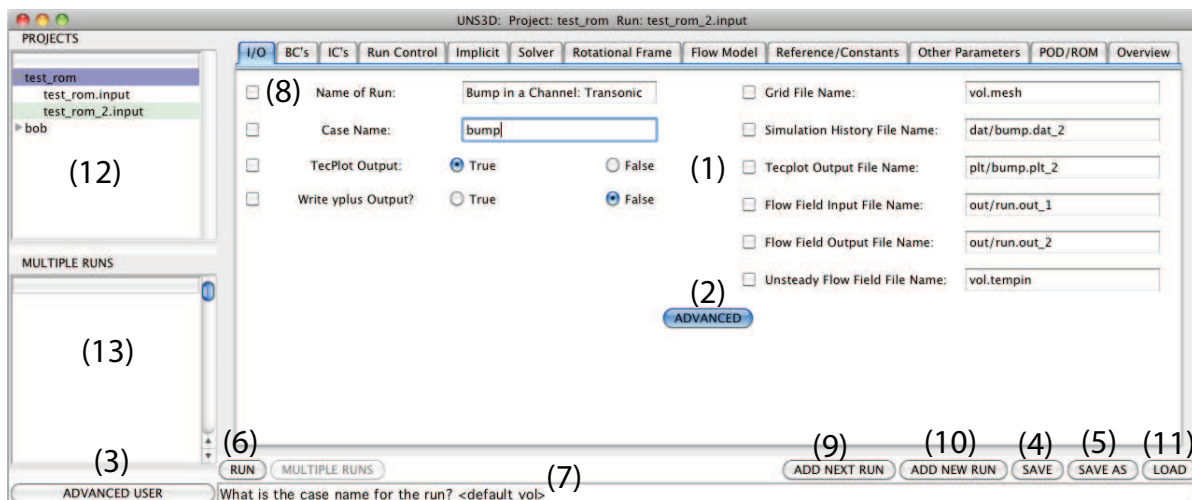
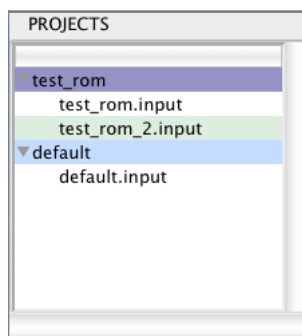
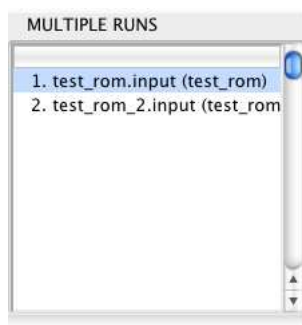

Figure 7.5: The main screen of the GUI.
Figure 7.8: The project tree view for the GUI on the main screen.
Figure 7.9: The multiple run tree view for the GUI on the main screen.
After the user has either created or loaded a project, they are presented with the main screen of the GUI, shown in Figure 7.5. From this screen, the user can generate an input file for `uns3d`, select another project, create multi-run jobs, execute and run `uns3d`, and view the residual history real-time. These options are explained in the following subsections.
From the main screen, the user can create input for a current production run, edit an existing input file, or create a new input file from the current input file. The input is broken up into different tabs that best describe what the input is (item 1 on Figure 7.5). These tabs are as follows:
- Boundary Conditions (BC)
- Initial Conditions (IC)
An explanation of each of the variables in the tabs can be found in Chapter 6. Each tab is split into basic and advanced sections. Basic input variables are the variables most often modified. Advanced variables, which can be viewed/edited by clicking either the Advanced button (item 2 on Figure 7.5) on each tab or clicking the Advanced User button on the main screen (item 3 on Figure 7.5), are those variables that are less often modified. Once the user is satisfied with the input, the project and input file can be saved by clicking either the Save, Save As, or Run button (items 4, 5, and 6 respectively on Figure 7.5).
When editing variables in the tabs, the user can hover over the variable name or entry and see information about the variable at the bottom of the screen in the message box, shown in Figure 7.5 (item 7). This dialog box presents the user with information about the variable, as well as its default value.
Adjacent to each variable are check boxes (item 8 on Figure 7.5). The check boxes are used to populate the Overview tab. The Overview tab allows the user to quickly check and review important input in one place. The user can modify the input from this tab as well. When the project is saved, those variables visible in the Overview tab are saved such that the user can view these variables each time the GUI is opened. The overview tab is shown in Figure 7.6.
Clicking the Add Next Run (item 9 on Figure 7.5) button will allow the user to generate a subsequent input file for a restarted or continued case. The user is presented with a dialog box where he can name the next input file. After choosing the name, the GUI will automatically increment file names (*e.g.*, from 1 to 2). The GUI will also change the input variable that specifies the type of run from new to restart. Clicking the Add New Run button (item 10 on Figure 7.5) will generate a completely new file using the code defaults. The user also has the option of loading an existing input file from other cases to populate the input by clicking the Load button (item 11 on Figure 7.5).
The user is allowed to select another project from the project tree view on the main screen, shown in Figure 7.8 (item 12 on Figure 7.5). The project tree view, just like the load screen, displays all existing projects and the associated input files. From the tree view, the user can select another input file from the list or another project. The user is also allowed to delete or rename inputs or projects from this tree view.
The user can create multi-run jobs using the multiple run tree view, shown in Figure 7.9 (item 13 on Figure 7.5). Multi-run jobs are simulations with several input files run sequentially. To create a multi-run job, the user right clicks input files in the project tree view and selects 'Add to Run List'. In this tree view, the user can delete input files from the list. Once the user is satisfied with the list of the input files, the Multiple Runs button is clicked. This generates a script file with the executable and the input files such that the system can handle them all at once. Once the run script is created, the run tab is opened. This is discussed in the next section.